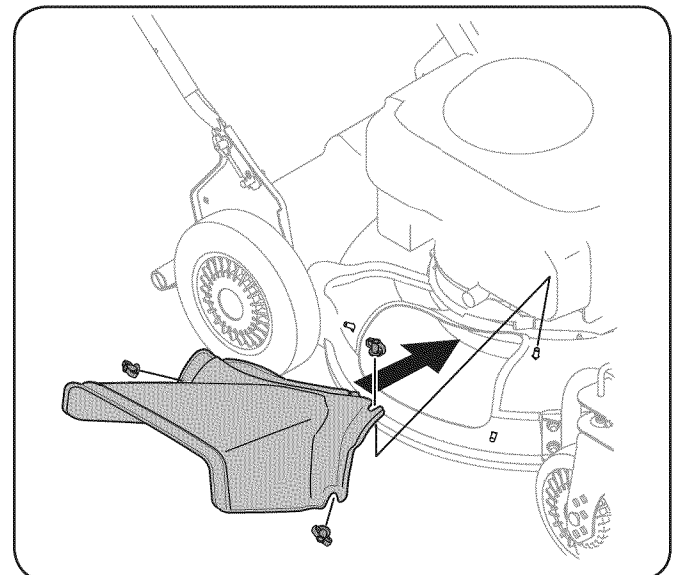

**Figure 3-5**
3. Lift chute door on the grass bag adapter and slide grass bag onto the adapter. See Fig. 3-5.